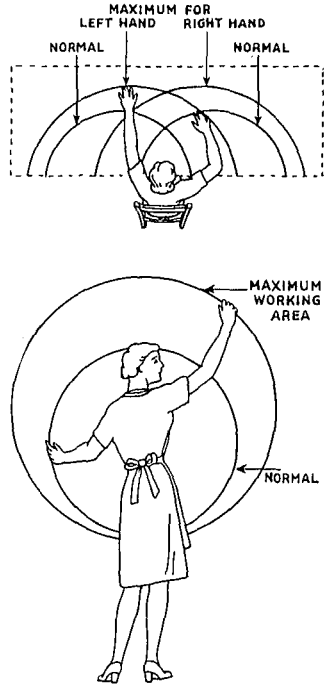

FIG. 17. Determining normal and maximum reaching capacity when seated and standing
**Working Areas.** The homemaker may reduce daily fatigue by planning the width and height of work areas. By extending her arms when seated and when standing, she can determine her normal and maximum reaching capacity (figure 17).